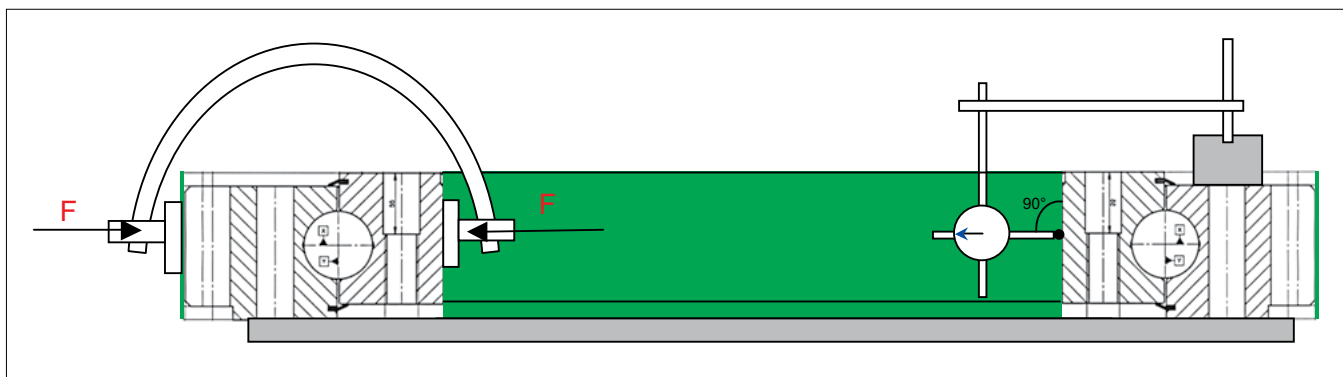

Fig. 1
- 4.1.1 Place the magnetic base of the dial gauge on the fixed ring of the bearing, the feeler pin is placed in contact with the diameter to be measured. Pay attention that the feeler pin is perpendicular to the contact surface (See Fig. 1).
- 4.1.2 Lock with a C Clamp the two rings of the bearing on the opposite site to the feeler pin in order to generate the force in radial direction (See Figure 1).